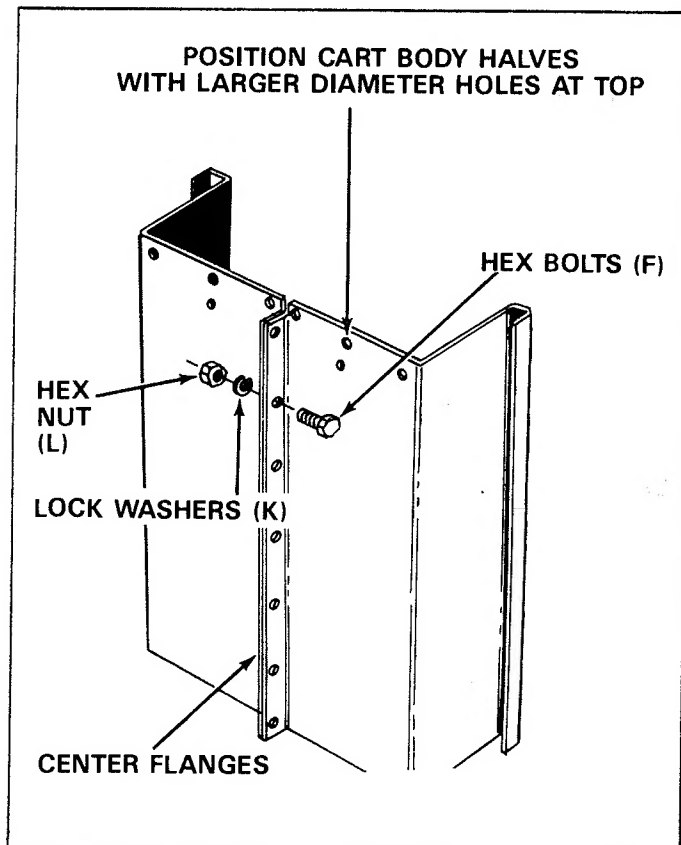

FIGURE 3
3. Position the cart body halves (W) upright, on a smooth level surface, as shown in figure 3.
4. Assemble the bolts (F), the lock washers (K) and hex nuts (L) to the holes in center flanges. **Do not tighten till step 15, page 5.** See figure 3.